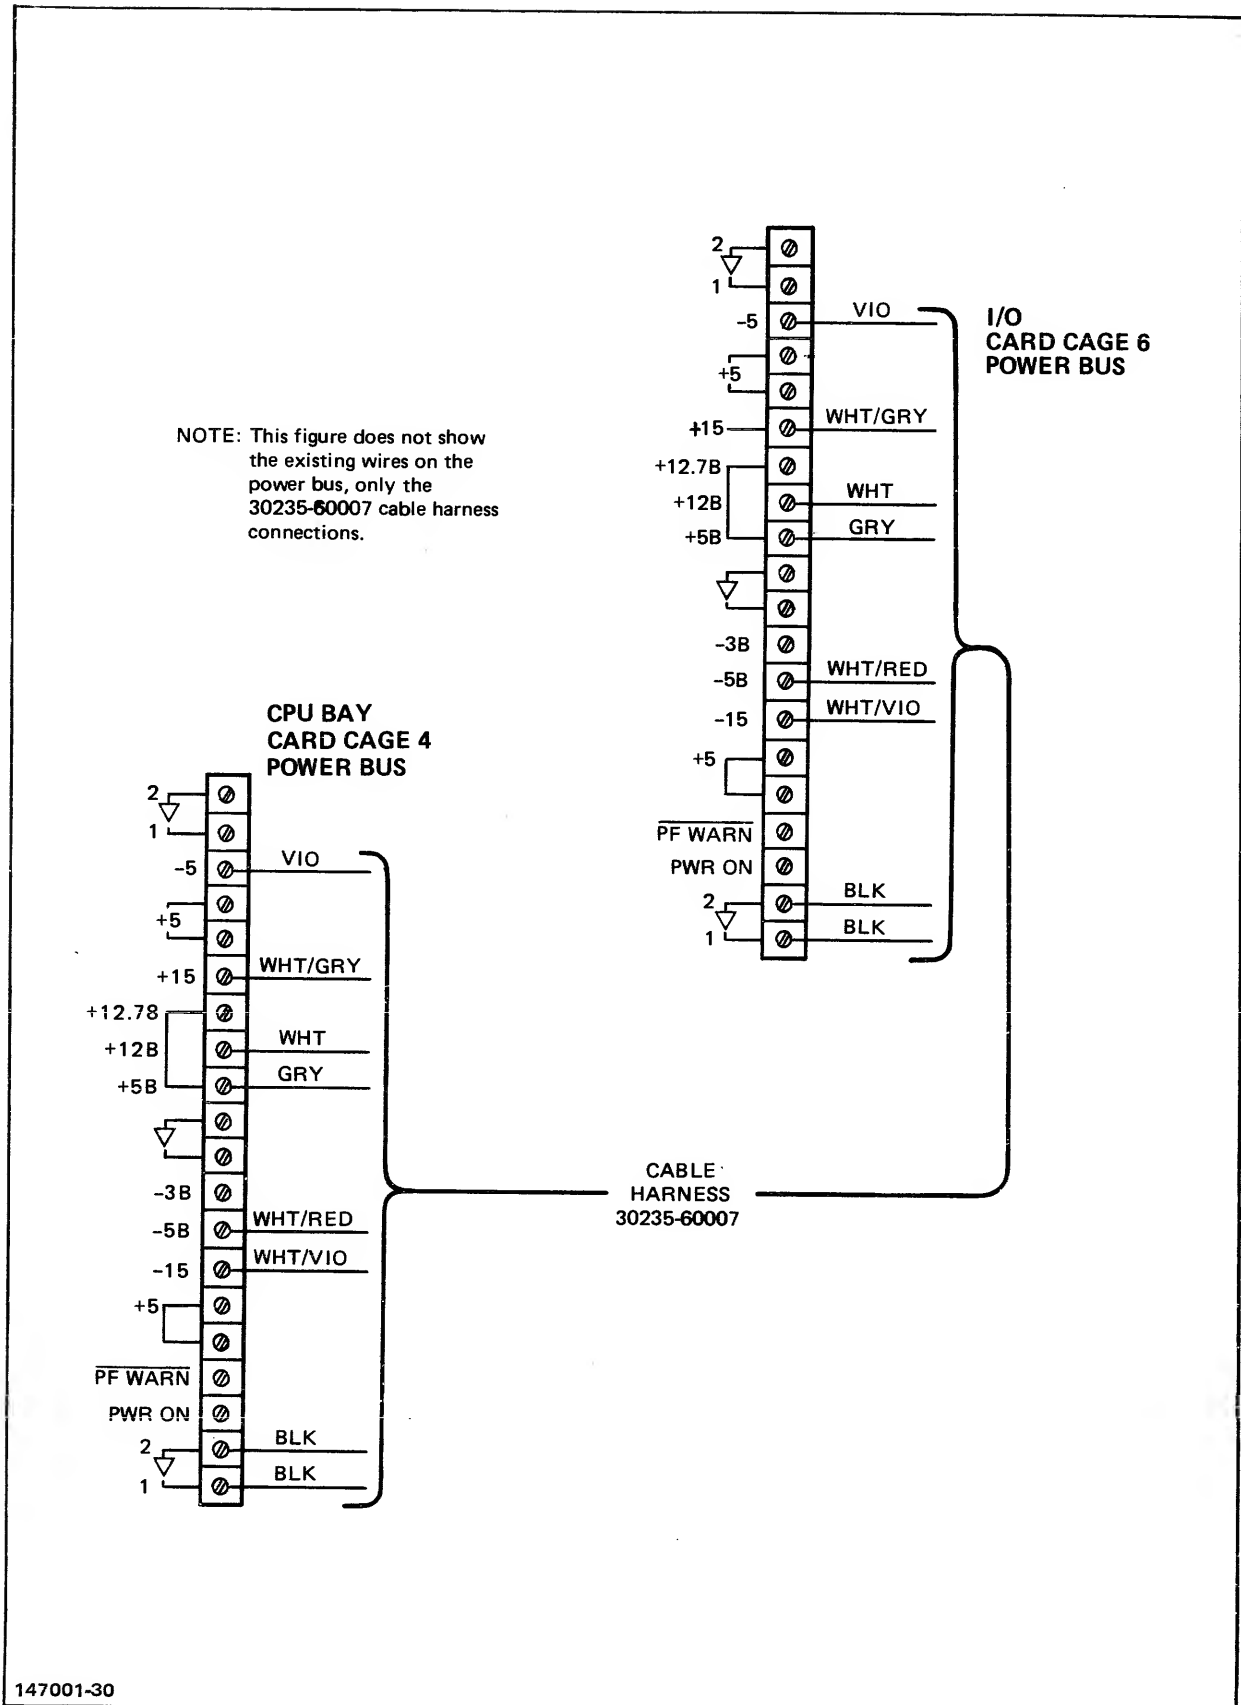

Figure 2-5. Cable Harness 30235-60007
4. Route cable harness 30325-60007 through channel cut-out in the middle of the side panel. Position it to interconnect CPU Bay card cage No. 4 and I/O Bay card cage No. 2 as shown in figure 2-5.